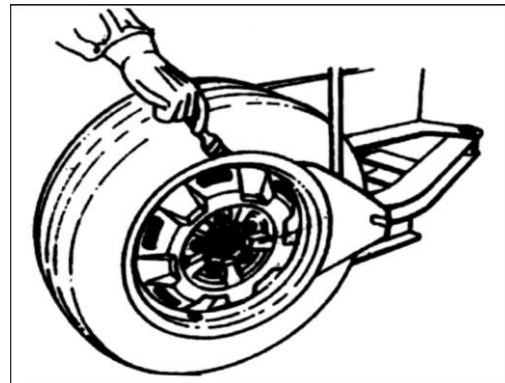

FIG10
- a) Deflate the air in the tire completely and pull out the core. Use the special tool to detach the weight on the rim. Place the tire between then bead breaking blade and tire pressing runner clog (FIG10).